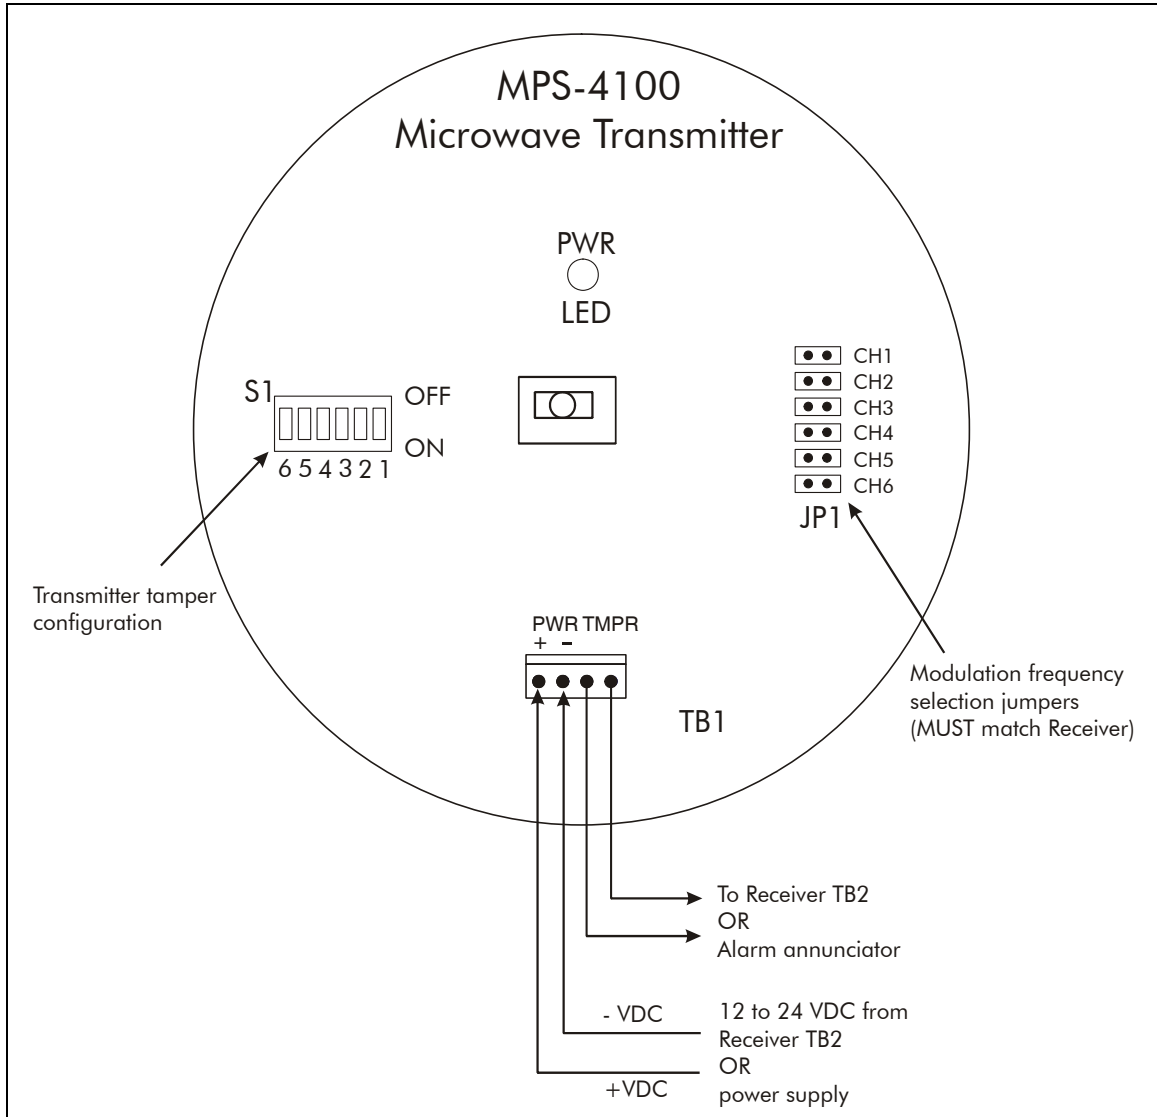

Figure 2-7 MPS-4100 Transmitter connections
1. Connect the power and tamper wires to TB1 (see Figure 2-7). Power may come from a power supply, or from TB2 on the Receiver. **Observe polarity.**